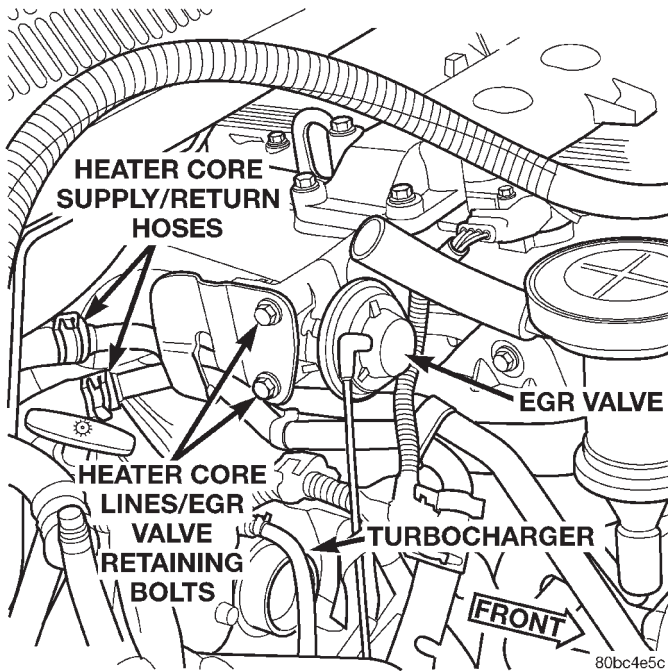

Fig. 56 Heater Hoses
(11) Disconnect the heater hoses (Fig. 56).
(12) Remove the EGR valve/heater core supply line retaining bolts
(13) Remove the heater core supply lines